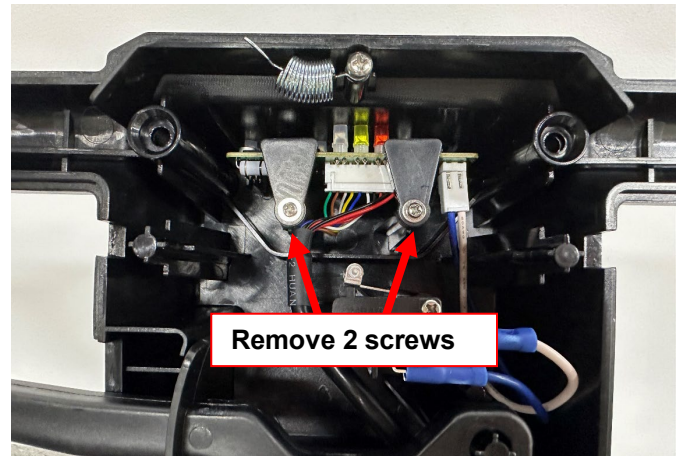

Figure 10
9. Remove 2 screws on the PCB fixing plate (Figure 10).